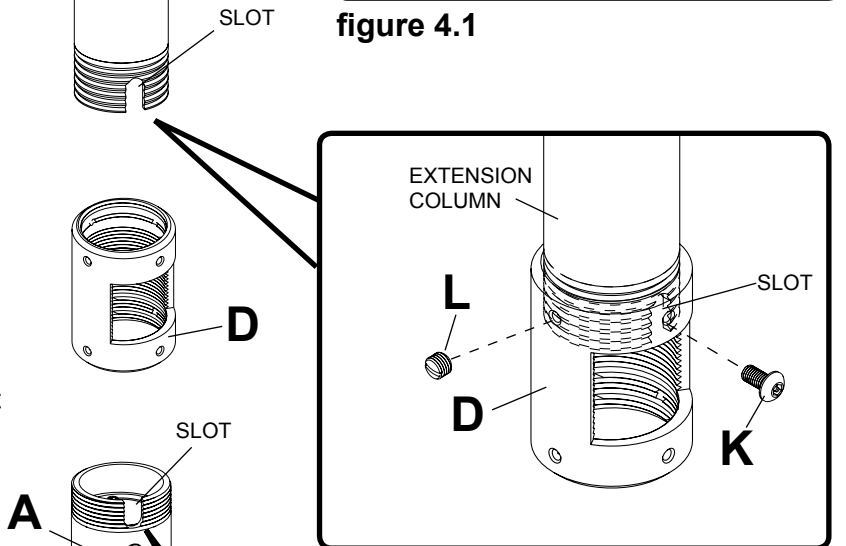

figure 4.2
Screw extension column connector (D) to extension column. Align slot in extension column with one of the top holes in extension column connector (D). Insert and tighten one #10-32 x 3/8" socket pin screw (K) through extension column connector (D) into slot on extension column using security allen wrench (U). See figure 4.2